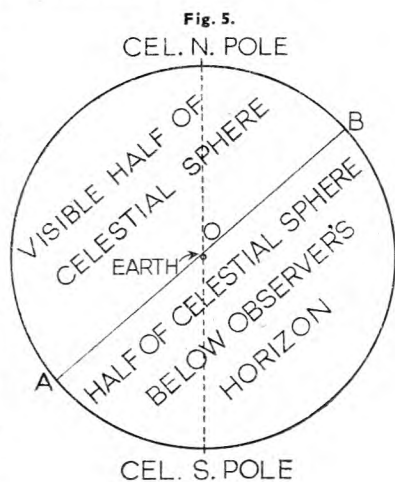

Fig. 5.
must be represented as a microscopic pin-point. This has been done in Fig. 5, and our line AOB of Fig. 3 has become a line passing through the centre of the circle which represents the Celestial Sphere, thereby cutting it into halves. Remembering that an observer can look all around him, this line actually represents a flat surface—in fact, a disc, the centre of which is the centre (O) of the Celestial Sphere and which divides the latter into two equal parts.
We have now answered part of our original question: From a given place you can always see exactly half of the Celestial Sphere—that is, half of the entire heavens—at any moment. Thus all the stars to be left of the line AOB in Fig. 5 are visible to an observer situated at the same spot on the earth's surface as the observer of Fig. 3.